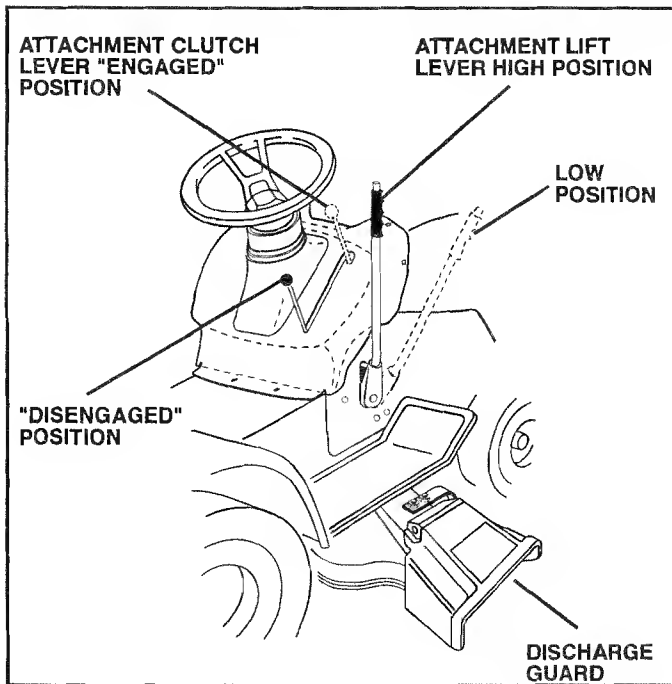

FIG. 6
TO OPERATE MOWER (See Fig. 6)
- Use the runner on the right hand side of mower as a guide. The blade cuts approximately an inch outside the runner (See Fig. 6).